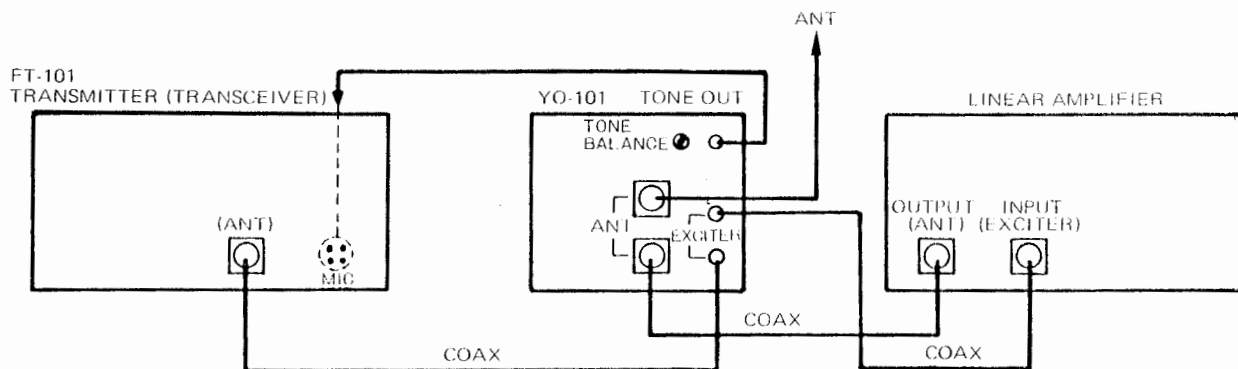

Figure 5
Set up the Monitorscope and transmitting equipment as illustrated in Figure 5, for the purpose of testing the linearity of the RF amplifier. The patterns from this test are called trapezoid patterns. Place the SWEEP FREQ Hz switch in the TRAP position.
- (1) Connect a coaxial cable from the output of the exciter to one of the connectors marked EXCITER and connect the other connector to the input of the linear amplifier under test with a coaxial cable as illustrated in Figure 5.
- (2) Connect a coaxial cable from the RF output connector of the amplifier to one of the ANT connectors on the Monitorscope. Connect the dummy load or antenna to the other ANT connector.
- (3) Connect a shielded patch cable from the TONE OUT jack of the Monitorscope to the microphone input of the exciter.
- (4) Turn on the power switch of the Monitorscope, and adjust the controls as described in previous sections.
- (5) Set the SWEEP FREQ switch to the TRAP position, and push the 1500 Hz and 1900 Hz buttons.
- (6) Turn on the exciter and linear amplifier and adjusted the switch and H. GAIN control of the Monitorscope for the desired pattern display.
- (7) Refer to the patterns on page II for evaluation of the linearity of the amplifier under test.